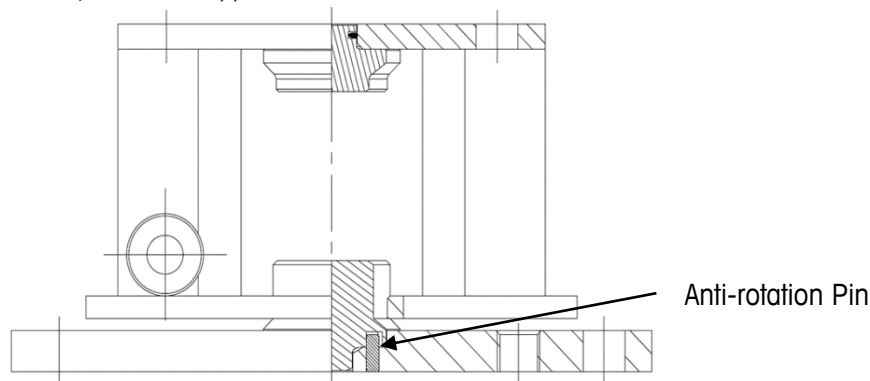
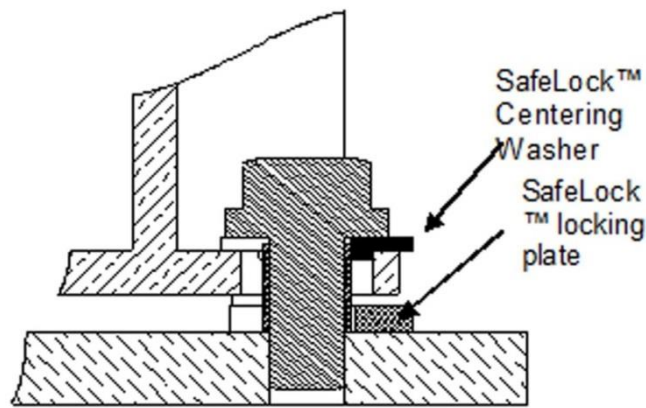

Figure 3-1: Installing receivers (side view)
Figure 3-3: Shipping Configuration
2. Insert the lower receiver into the hole at the center of the base plate, (Note: the base plate has an anti-rotation pin, and the lower receiver has a corresponding slot. Align the pin into the slot as shown in Figure 3-1). Insert the upper receiver into the hole at the center of the underside of the top plate.
6. Reinstall the two SafeLock™ centering washers and tighten down the lift-off bolts. Make sure that the SafeLock™ centering washer's seat correctly in the hole for the lift (see Figure 3-3). This will ensure that the top plate is aligned correctly with the base plate. Make sure that the top plate assembly is supported by the SafeLock™ locking plate, not the load cell.
2. If you are installing weigh modules without load cells, insert the lower receiver into the base plate hole as shown in Figure 3-1. Make sure that the top plate is properly aligned and locked to the base plate (see Figure 3-3).
- Insert the lower receiver into the hole at the center of the base plate (Note: The base plate has an anti-rotation pin, and the lower receiver has a corresponding slot. Align the pin into the slot as shown in Figure 3-1) Insert the upper receiver into the hole at the center of the underside of the top plate.